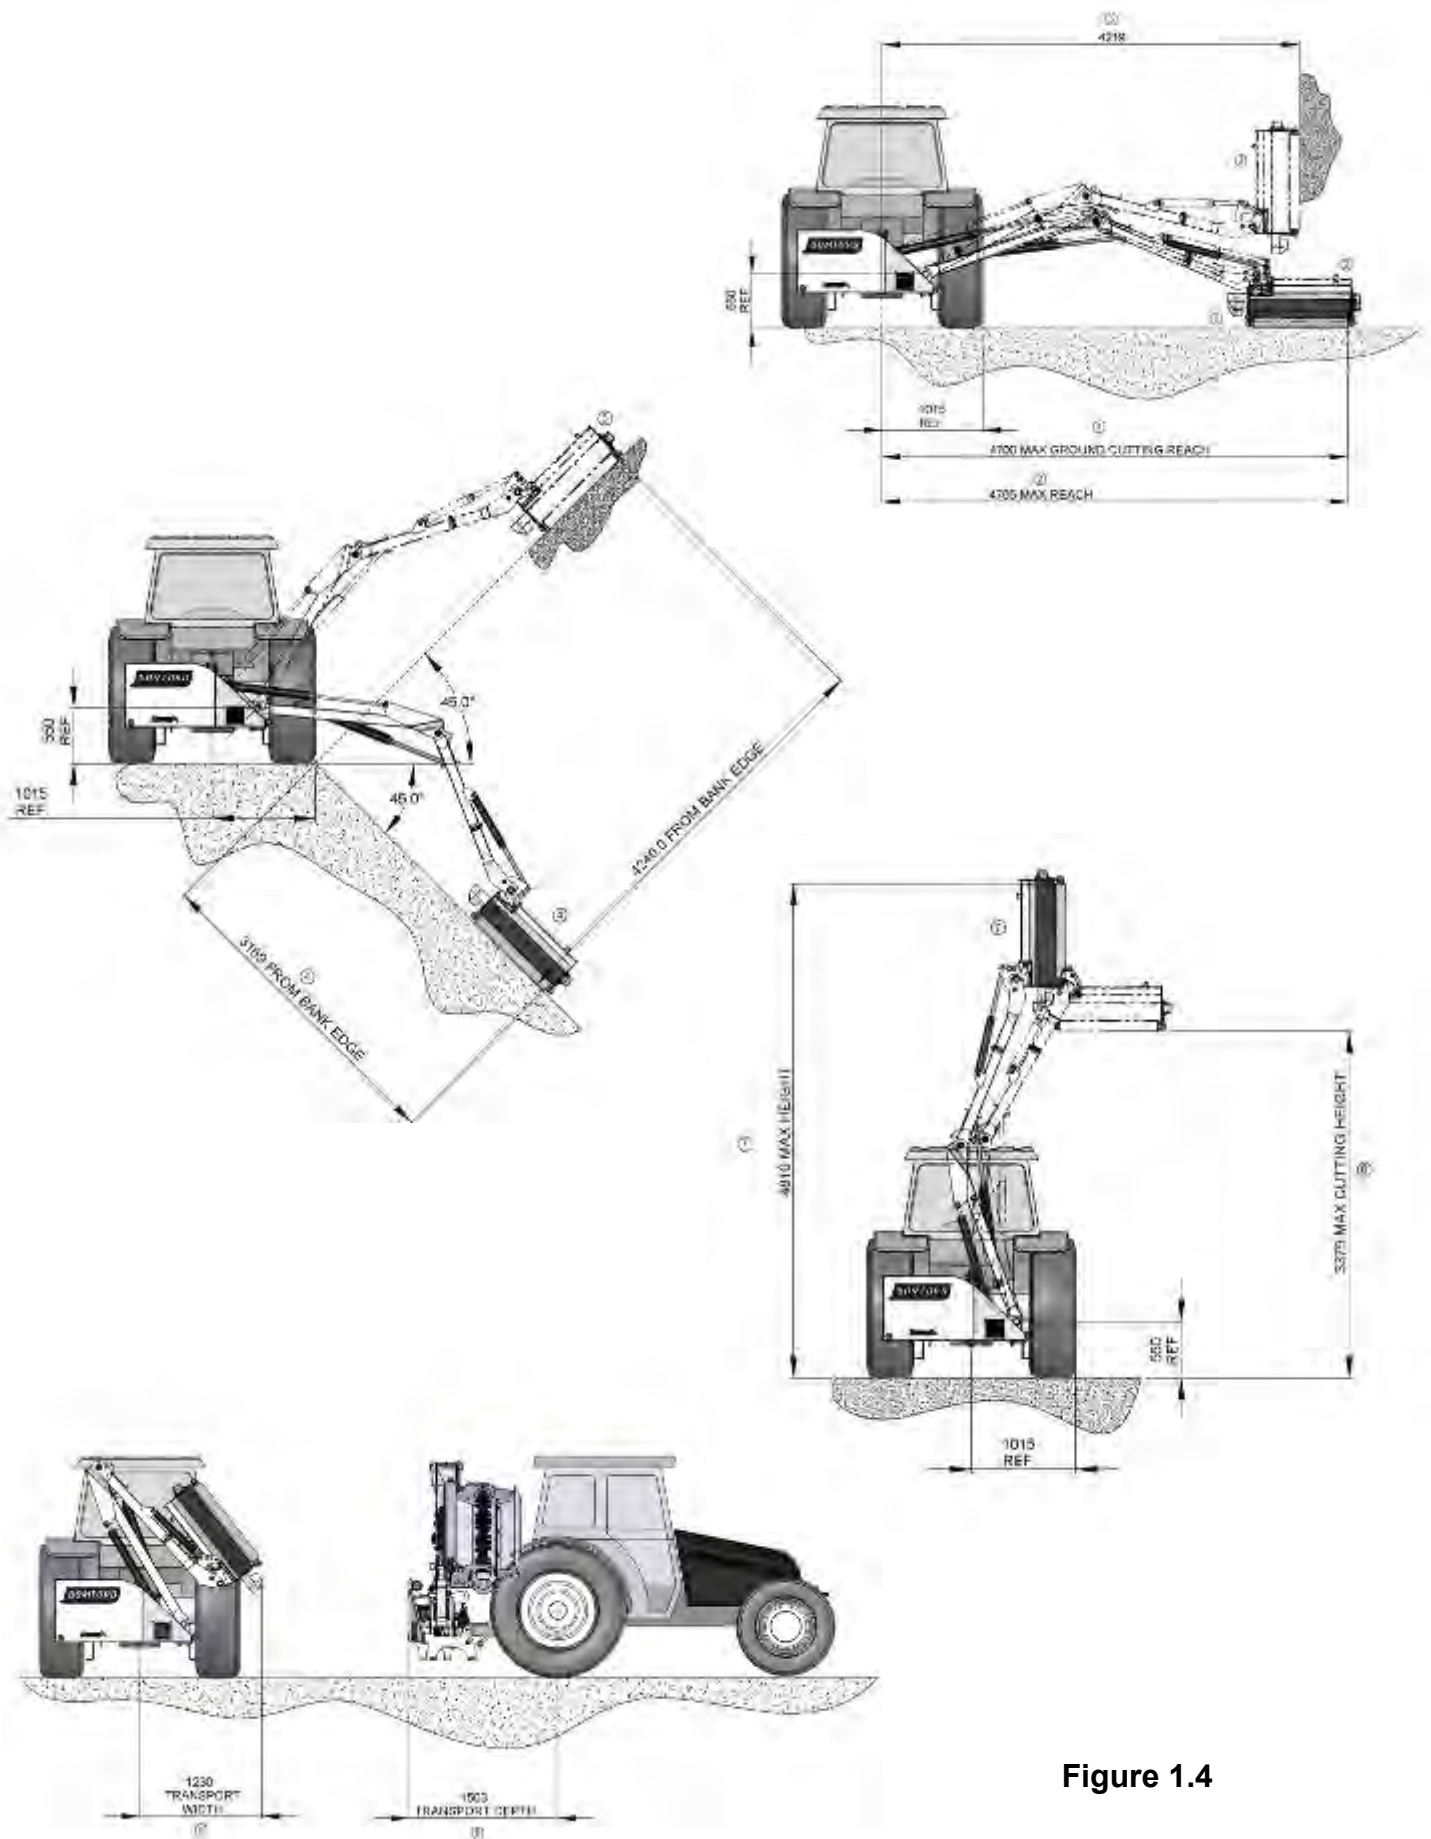

Figure 1.4
Max lateral off-ground grass cut	4705mm (See item 2 in figure 1.4)
Max lateral off-ground side cut	4219mm (See item 3 in figure 1.4)
Max down-bank grass cut	3169mm (See item 4 in figure 1.4)
Max up-bank grass cut	4240mm (See item 5 in figure 1.4)
Max vertical flat cut	3375mm (See item 6 in figure 1.4)
Max vertical side cut (5)	4810mm (See item 7 in figure 1.4)
Max transport width to centreline (6)	1230mm (See item 8 in figure 1.4)
Max transport overhang to axle (7)	1503mm (See item 9 in figure 1.4)